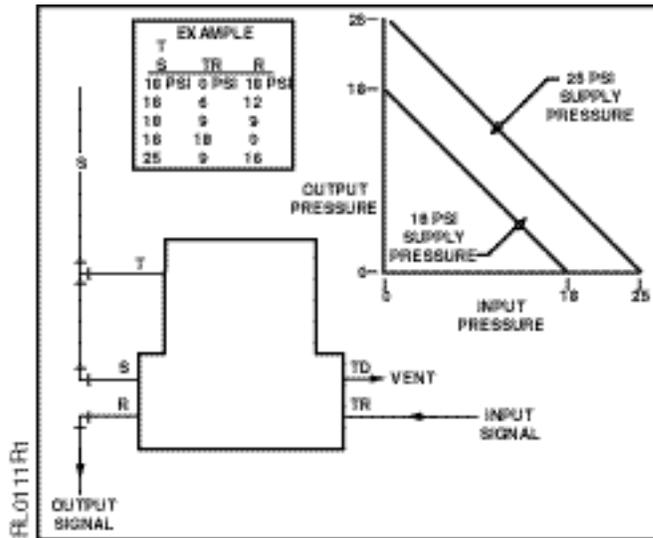

Figure 7.
- Reverse acting amplifying relay. See Figure 7.